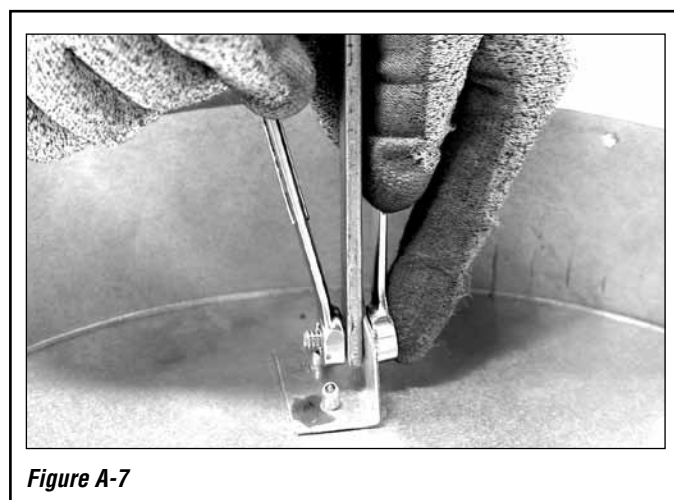

Figure A-7
- 4.2. Using two 7/16" wrenches, tighten the nut completely (**Figure A-7, below**).